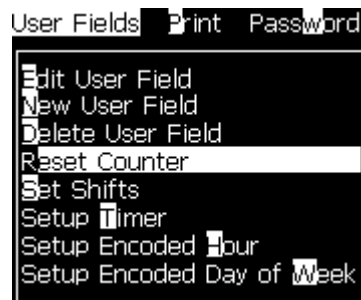

Figure 5-40: Select *Reset Counter*
- 2 Select the *Reset Counter* option (see Figure 5-40).